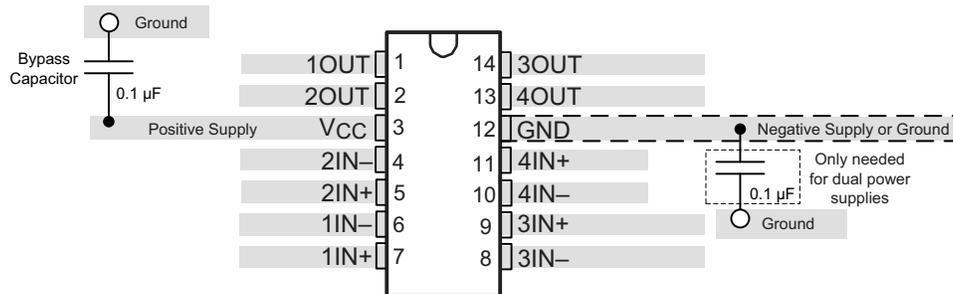

Figure 8-3. Comparator Board Layout
- To minimize supply noise, place a decoupling capacitor (0.1- μ F ceramic, surface-mount capacitor) as close as possible to V_S as shown in Figure 8-3.